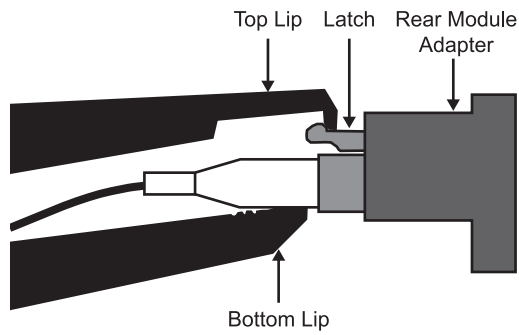

Figure 2.6 Positioning the Optic Cable Tool — Single-Latch Connector
1. Position the bottom lip of the Optic Cable Tool on the connector boot, ensuring that the top lip makes contact just behind the notch at the end of the latch. (**Figure 2.6**)